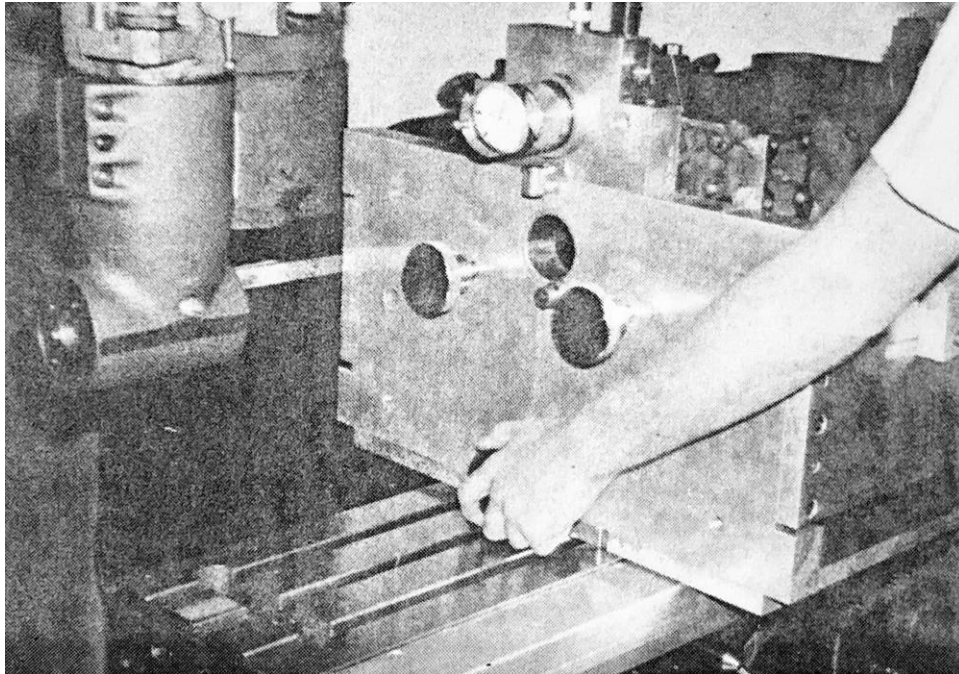

Figure 3
11. Adjust the "Lift Jacks" (see Fig. 3) and the "Adjustment Bracket Screws" (see Fig. 4) until the 2" Support Bar and Bronze Sleeves can be removed.
14. Rotating the "Set-Up Indicators" back and forth, dial in the main bores. Adjustments can be made using the "Lift Jacks" (Fig. 3) and the "Adjustment Clamp Screws" (Fig. 4).